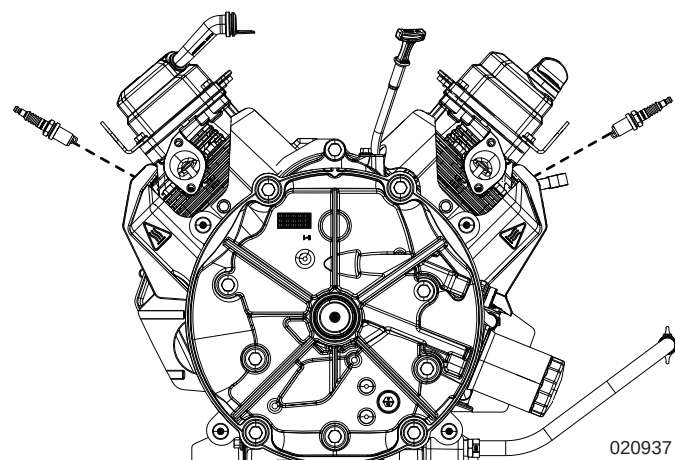

Figure 12-26. Install Spark Plugs
6. See Figure 12-26. Install oil cooler cover (F) over oil cooler and secure with fastener (G).